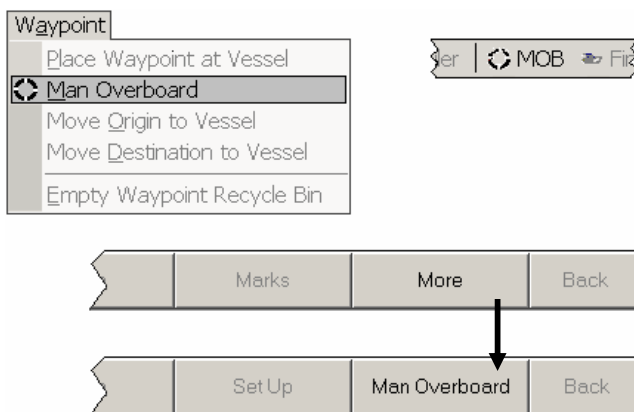

Figure 4-18. Placing A Man Overboard Marker
1. As shown in Figure 4-18, select **Place Waypoint at Cursor** from the Waypoint menu, click MOB on the toolbar, or click **More/More/Man Overboard** on the function bar.